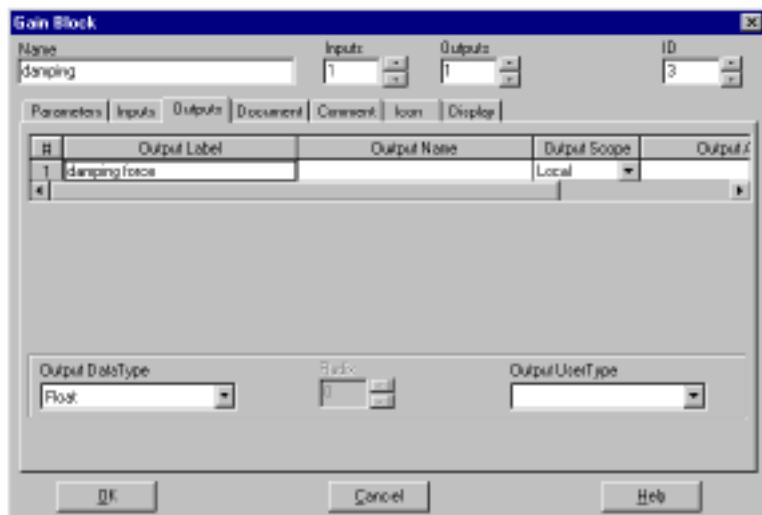

Figure 4-18. Gain Block (Outputs Tab)
- Click within the cell corresponding to output #1 **Output Label**, and enter **damping force**. (see Figure 4-18).